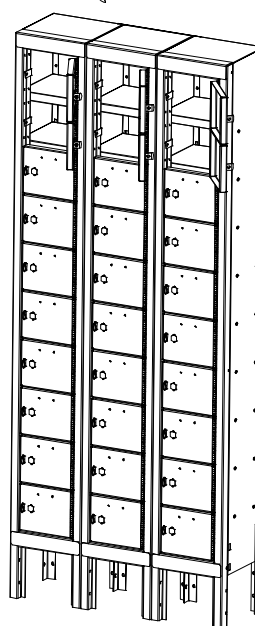

Figure 13
Assemble the O-ring into the round holes located on the back panel. Repeat the directions from Step 5 for the Shelf assembly using the screws (H) and nuts (I) to fasten. (Figure 13)